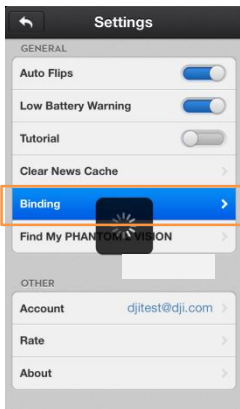
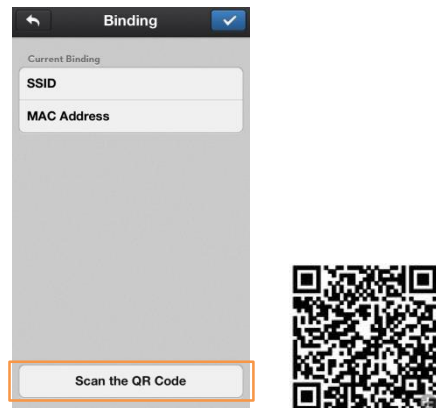

Fig.1
Fig.2 ( QR code is only for example. )
5. (Fig.1) Run the DJI VISION App->Settings->General->Binding. (Fig.2) Select 'Scan the QR Code' to scan the camera QR code on the product packaging. (Fig.3) Get the camera SSID (E.g. FC200\_0xxxxx) and the MAC address, select the tick ☒ on the top right corner. The range extender should automatically restart. The binding procedure is now complete.